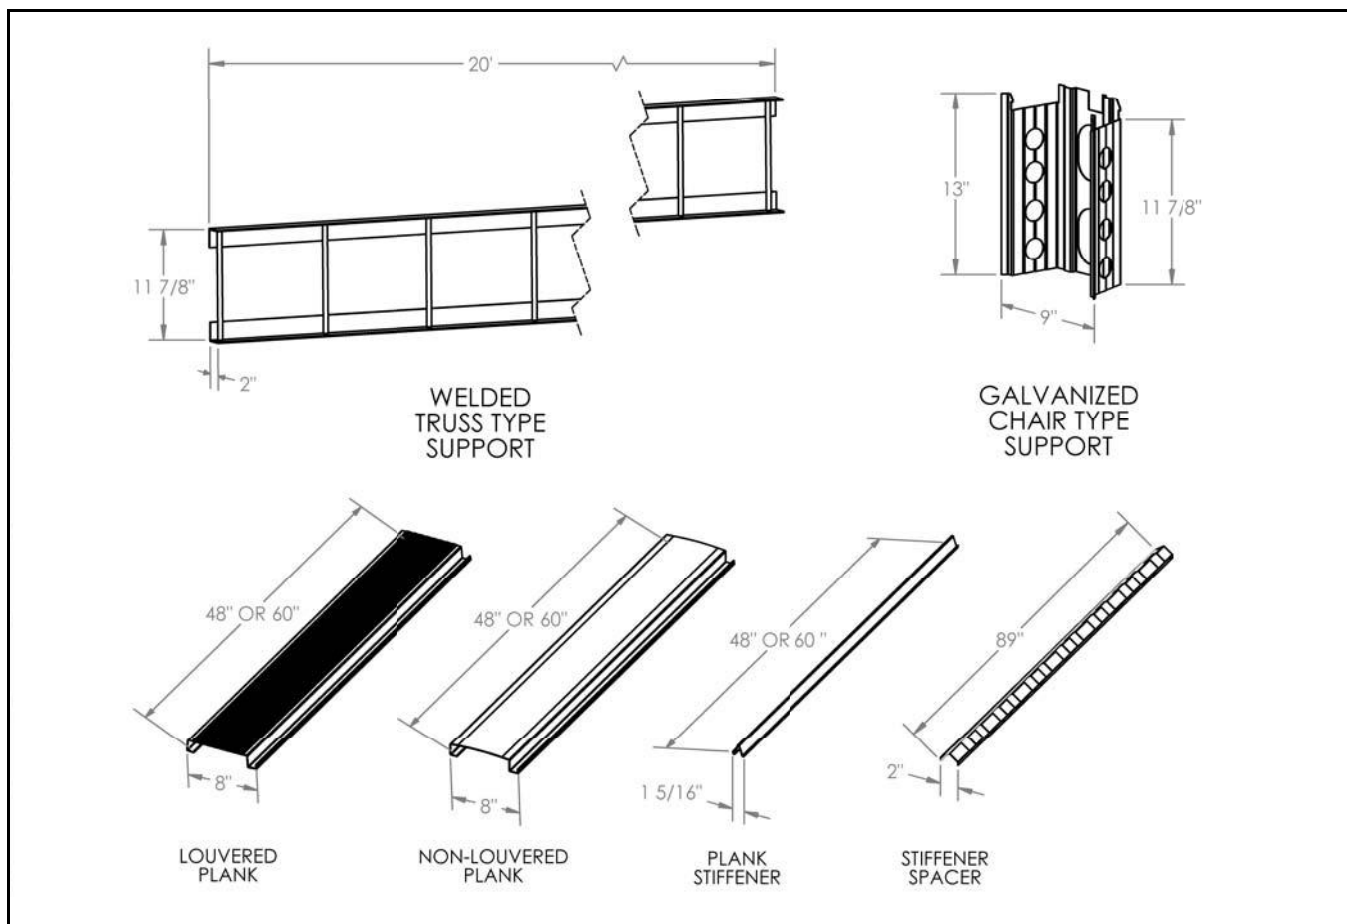

Figure 2.2
1. Figure 2.2 shows the type of supports and configurations available with Grain Guard flooring packages.